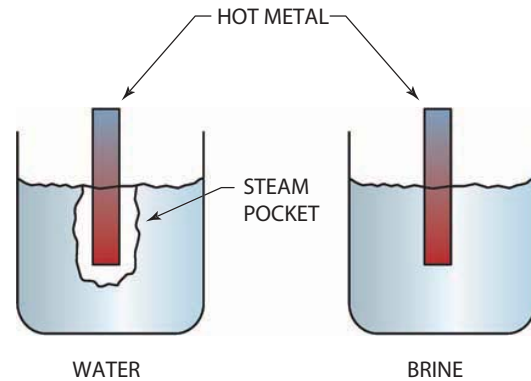

FIGURE 27-18 Effect of brine on quenching rate. © Cengage Learning 2012
- Brine quenching—The part is immersed in a salt-water solution. The salt does not allow a steam pocket to form around the part, as happens with straight water. This results in the fastest quenching time, Figure 27-18.